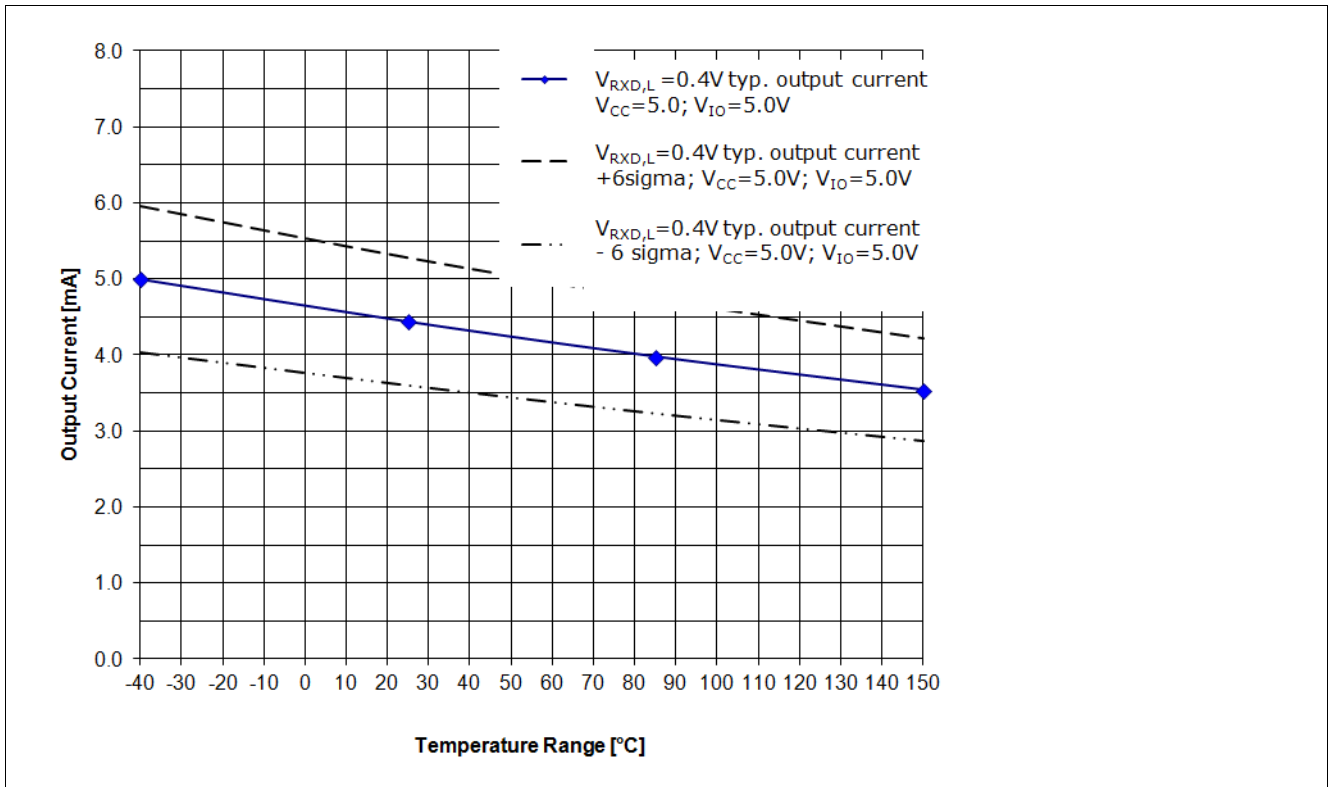
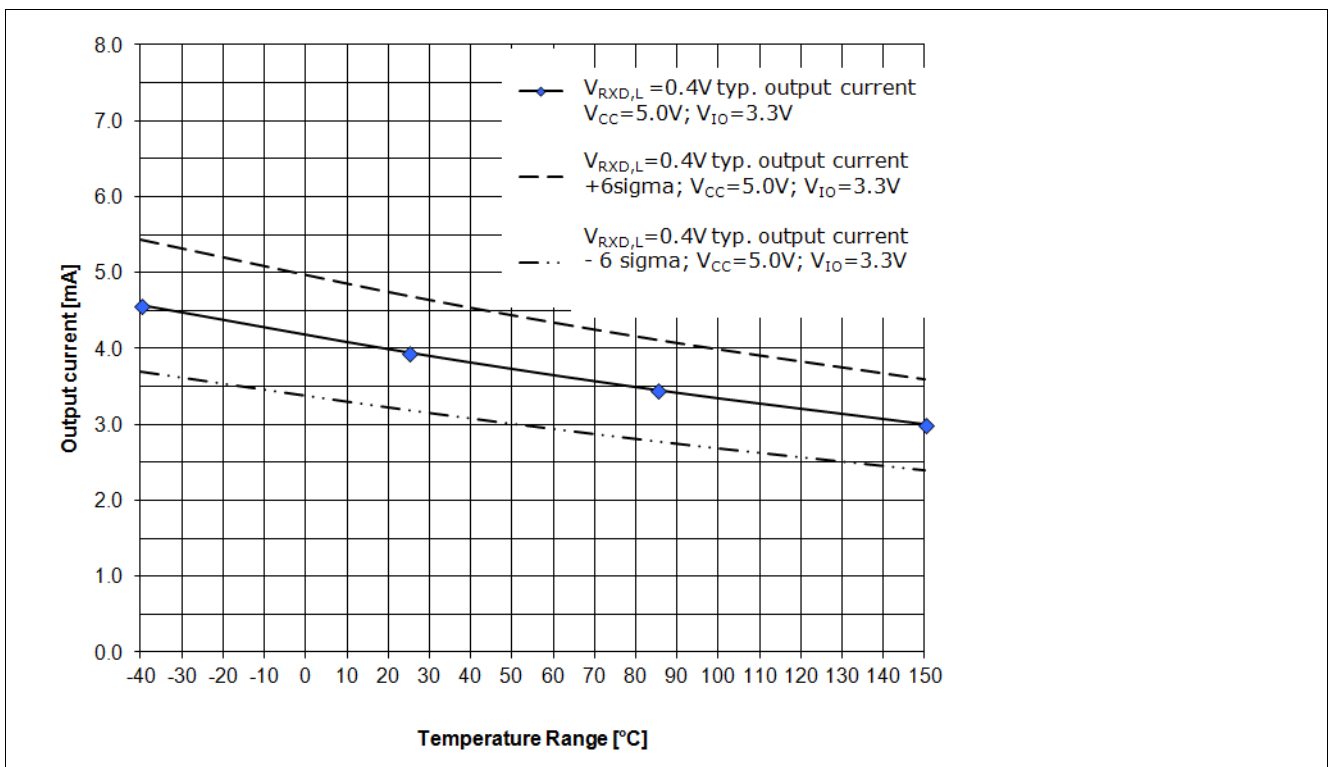

Figure 13 RxD Output driver capability for a logical “Low” signal $V_{RxD,H}=0.4\text{ V}$, $V_{CC}=5.0\text{ V}$, $V_{IO}=5.0\text{ V}^1)$
Figure 14 RxD Output driver capability for a logical “Low” signal $V_{RxD,H}=0.4\text{ V}$, $V_{CC}=5.0\text{ V}$, $V_{IO}=3.3\text{ V}^1)$
The diagram in Figure 13 and the diagram in Figure 14 show the current capability of the RxD output pin depended on the chip temperature T_J . Figure 13 shows the current capability of the RxD output pin at a V_{IO} power supply of 5.0 V and Figure 14 shows the current capability of the RxD output pin at a V_{IO} power supply of 3.3 V.
- The curve “ $V_{\text{RxD,L}} = 0.4$ V; **typ. output current**; $V_{\text{CC}} = 5.0$ V; $V_{IO} = 5.0$ V;” displays the typical output current at the RxD output pin of the TLE8250GVIO (see Figure 13).
- The curve “ $V_{\text{RxD,H}} = 0.4 \text{ V}$; **typ. output current + 6 sigma**; $V_{\text{CC}} = 5.0 \text{ V}$; $V_{\text{IO}} = 5.0 \text{ V}$,” displays the expected maximum value of the output current at the RxD output pin (see Figure 13).
- The curve “ $V_{\text{RxD,H}} = 0.4 \text{ V}$; **typ. output current - 6 sigma**; $V_{\text{CC}} = 5.0 \text{ V}$; $V_{\text{IO}} = 5.0 \text{ V}$,” displays the expected minimum value of the output current at the RxD output pin (see Figure 13).
- The curve “ $V_{\text{RxD,H}} = 0.4 \text{ V}$; **typ. output current**; $V_{\text{CC}} = 5.0 \text{ V}$; $V_{\text{IO}} = 3.3 \text{ V}$,” displays the typical output current at the RxD output pin of the TLE8250GVIO (see Figure 14).
- The curve “ $V_{\text{RxD,H}} = 0.4 \text{ V}$; **typ. output current + 6 sigma**; $V_{\text{CC}} = 5.0 \text{ V}$; $V_{\text{IO}} = 3.3 \text{ V}$,” displays the expected maximum value of the output current at the RxD output pin (see Figure 14).
- The curve “ $V_{\text{RxD,H}} = 0.4 \text{ V}$; **typ. output current - 6 sigma**; $V_{\text{CC}} = 5.0 \text{ V}$; $V_{\text{IO}} = 3.3 \text{ V}$,” displays the expected minimum value of the output current at the RxD output pin (see Figure 14).